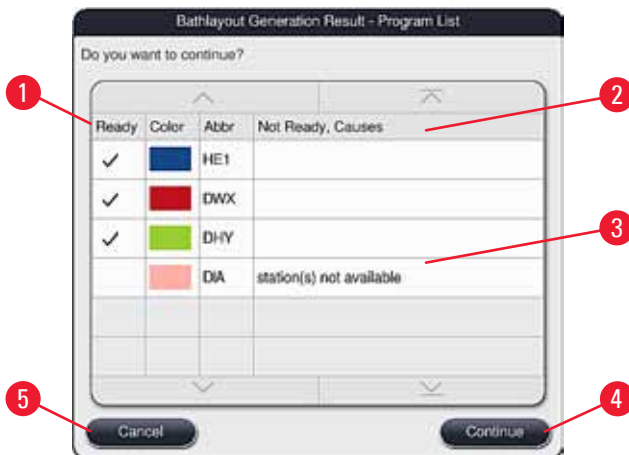

Fig. 52
- The user is informed if more programs have been selected than were able to be integrated into the bathlayout by the display "Bathlayout Generation Result" (→ "Fig. 52"). Successfully integrated programs are marked by a check mark in the "Ready" column (→ "Fig. 52-1").